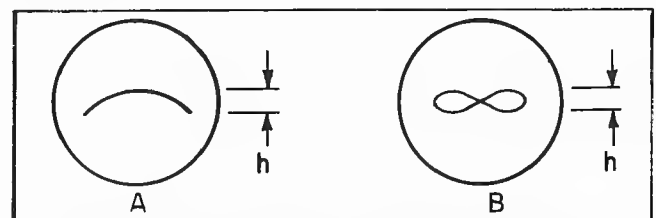

Figure 5-12. Second Mixer Adjustment Waveforms.
j. Set bandwidth to 3100 and RECEIVER MODE to AM. With fine frequency tuning, adjust frequency above and below 1 MHz until circle disappears. Channel B of the oscilloscope should not exceed 80 millivolts p-p. (See dimension labeled "h" in Figure 5-12.) Repeat this for the 1000 Hz and 200 Hz bandwidths (2300 Hz and 50 Hz bandwidths for 312D).